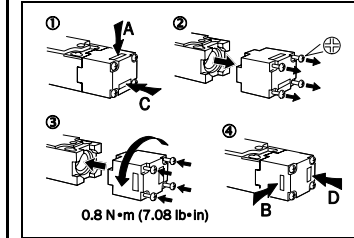

Fig. 4: Reversing the actuating direction
- Undo screws on the switch head (see Fig. 4).